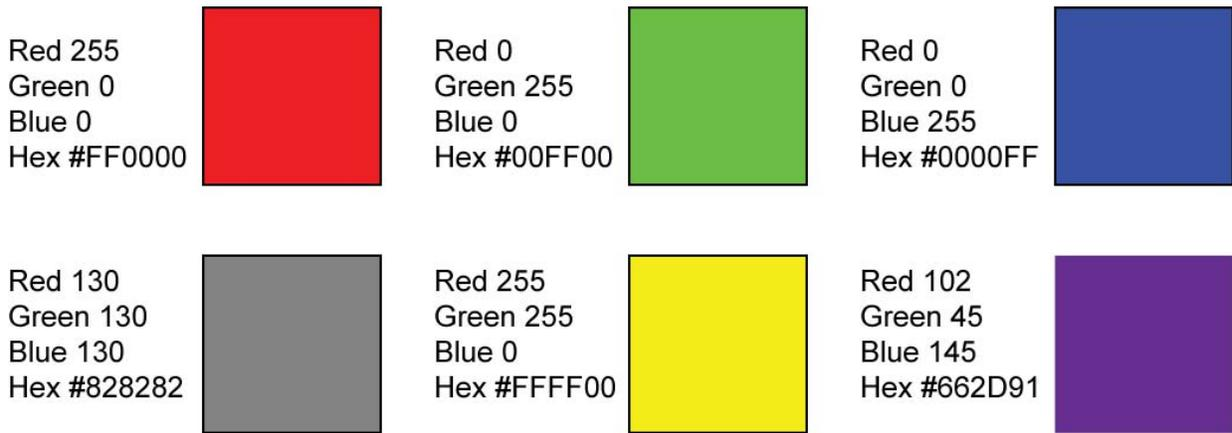

Figure 16: Examples of RGB Color Codes
- Colors can be conveyed digitally by sending a 1-byte scale (binary - 00000000 to 11111111, decimal - 0 to 255, or hexadecimal - 0 to FF) of the three colors red, green, and blue (RGB color model). See the examples in Figure 16.